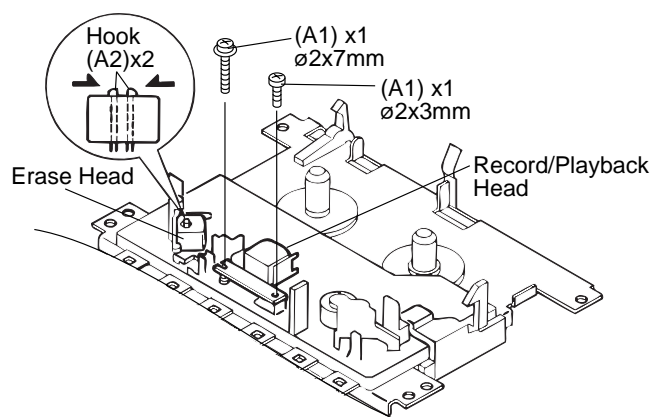

Figure 5-1
How to remove the record / playback and erase heads (See Fig. 5-1.)
2. Remove the hooks (A2) x 2 pcs., toward the center position as shown in Fig. 5-1. and then extract the erase head upward.